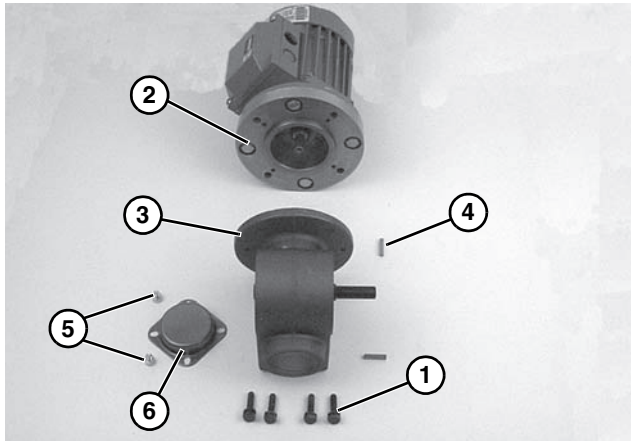

Figure 20
- Remove four screws (**Figure 20, item 1**). Detach motor (**Figure 20, item 2**) from gear reducer (**Figure 20, item 3**). Retain motor output shaft key (**Figure 20, item 4**).
- Remove two (2) screws (**Figure 20, item 5**) and detach output shaft cover (**Figure 20, item 6**).
- With key (**Figure 20, item 4**) in keyway, slide motor (**Figure 20, item 2**) and gear reducer (**Figure 20, item 3**) together. Install screws (**Figure 20, item 1**) and tighten.
7. Install screws (**Figure 20, item 1**) and tighten to 65 in-lbs (7.3 N-m).